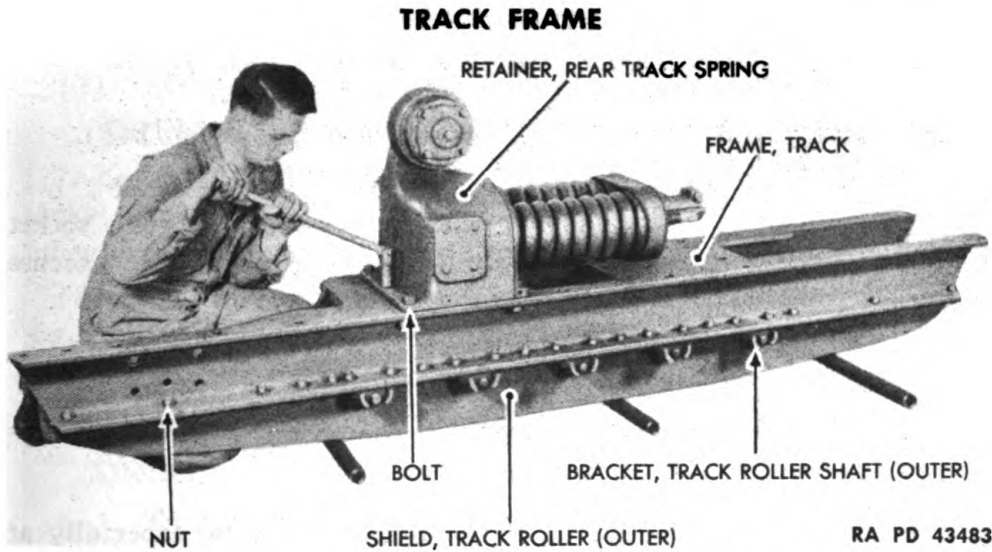

Figure 185 — Track Spring Retainer Rear (Right) Removal
**(13) REMOVE REAR TRACK SPRING RETAINER (RIGHT) (fig. 185).
(1) INSTALL BOTTOM TRACK ROLLERS (fig. 185).
- (2) **INSTALL INNER AND OUTER TRACK ROLLER SHIELDS (fig. 185).**
- (3) **INSTALL REAR TRACK SPRING RETAINER WITH SPRINGS INSTALLED (fig. 185).**